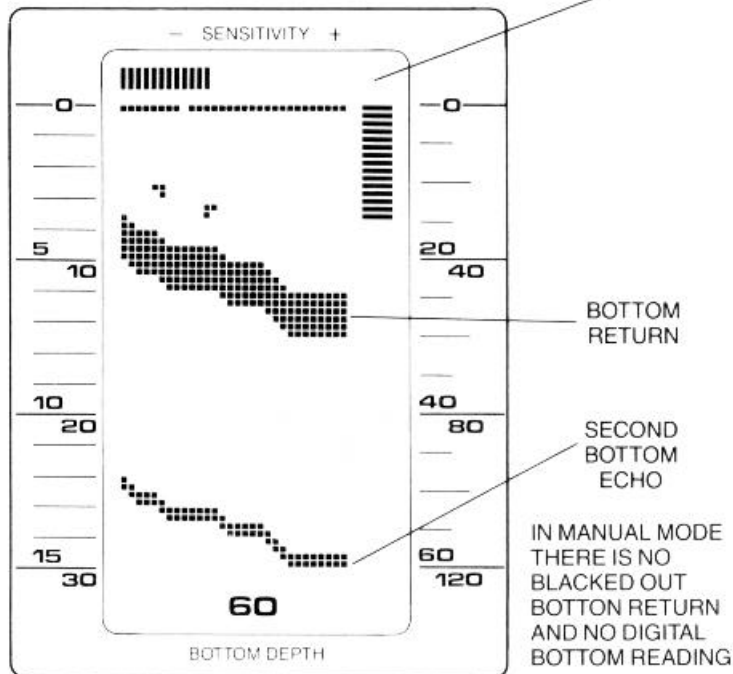
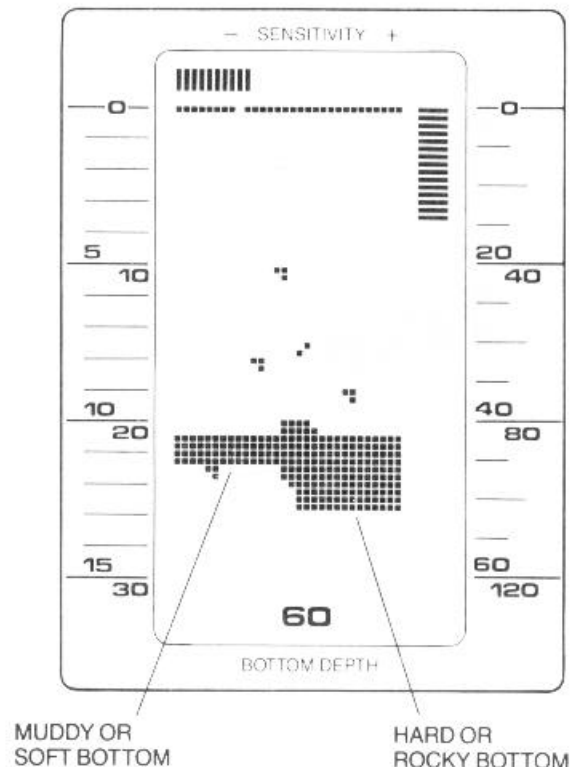

Figure 14
Figure 15
In the manual mode everything below the bottom is no longer blacked out, therefore a second return or double echo can be displayed if desired. (See Figure 14). Also, the hardness of the bottom can be determined by the thickness of the bottom return. For example, a hard or rock bottom will give a wider bottom return as compared to a soft or muddy bottom. (See Figure 15).
- C. The Zoom Range indication at the right of the display can be used for depth reference. For example in Figure 15 the Zoom Range is set between 17 ½ feet and 25 feet. This means that when the Zoom is activated that you are looking at an expanded view of the area from 17 ½ feet to 25 feet.